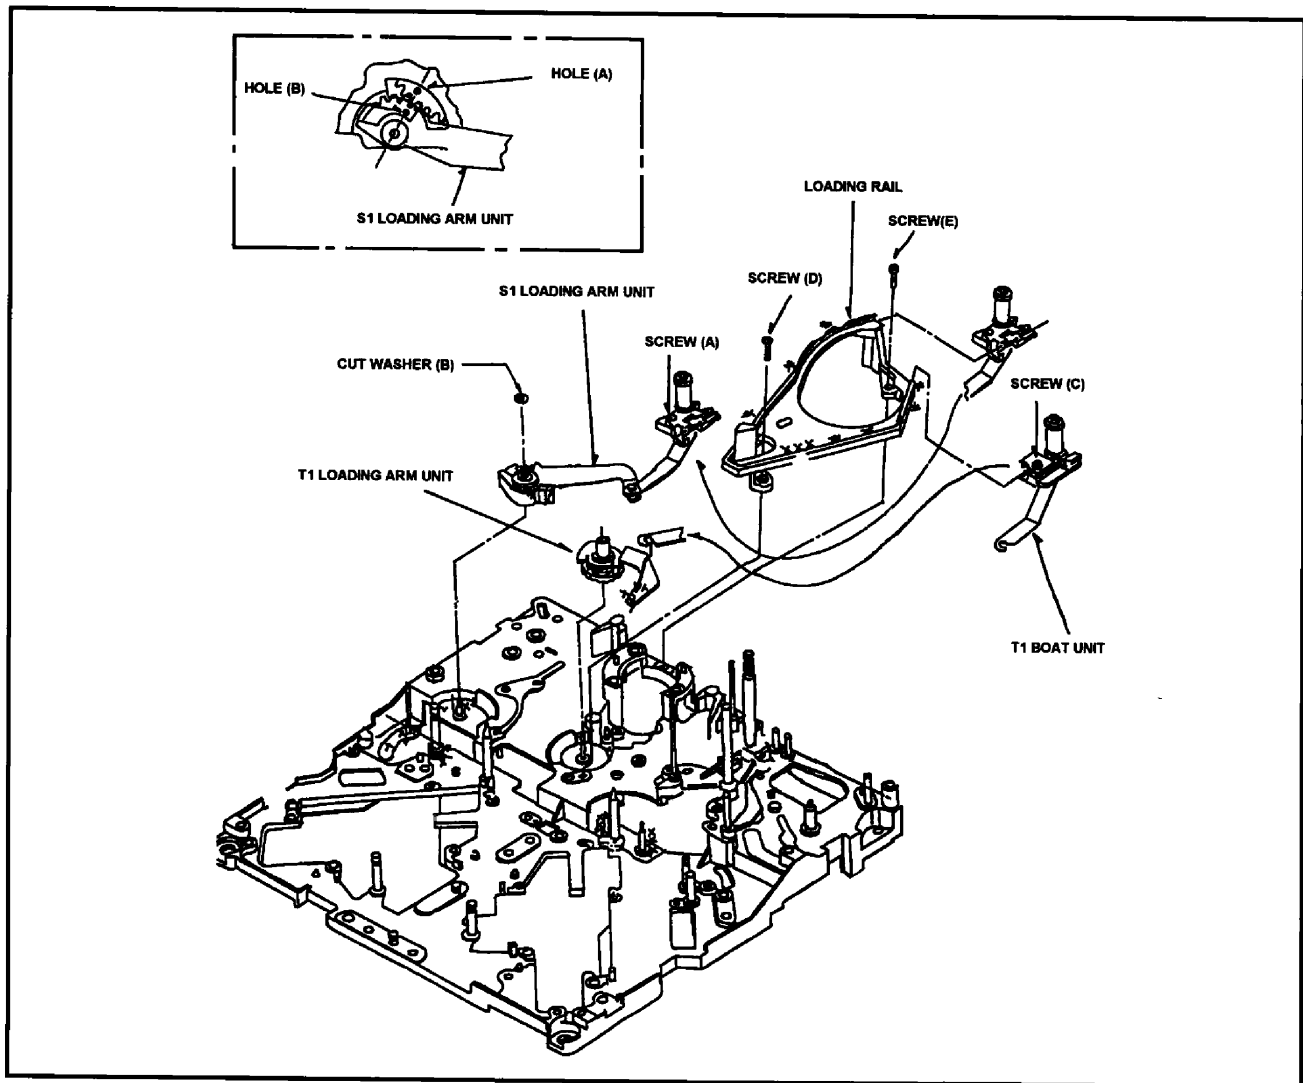

Fig. M16
4. Turn the Emergency Gear to be in middle loading position and unscrew the screw (D),(E) as shown in Figure M16.
5. Remove the S5 Stopper Base and the Tension Arm Unit (Refer to item 14 & 15).
6. Unscrew the screw (A) and remove S1 Post from the Loading Rail as shown in Figure M16.
7. Remove the Cut Washer (B) and remove the S1 Loading Arm Unit as shown in Figure M16.
8. Unscrew the screws (C), and then remove the T1 Post from Loading Rail as shown in Figure M16.
9. Remove the T1 Boat Unit from T1 Loading Arm Unit as shown in Figure M16.
1. Adjust S1 Post Loading Arm Unit so that the hole (A) should match with the hole (B) as shown in Figure M16.